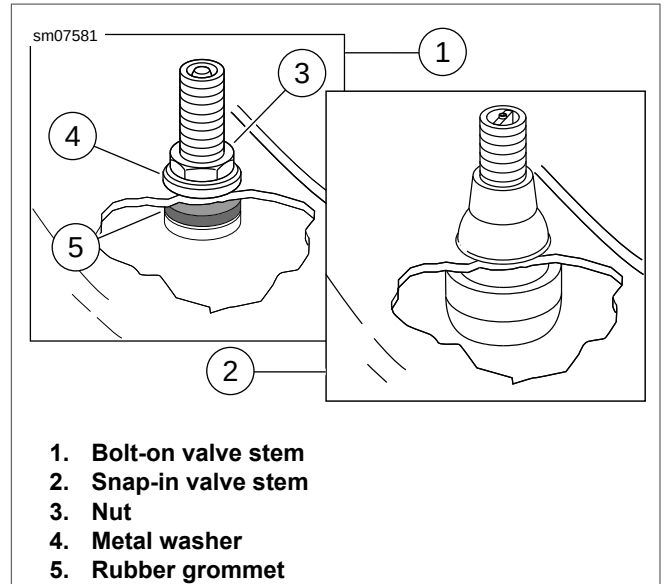

Figure 2-4. Tubeless Tire Valve Stems
1. See Figure 2-4. Replace damaged or leaking valve stems.
- a. Install rubber grommet (5) on valve stem (1).
- c. Install metal washer (4).
- d. Install nut (3). Tighten to 12-15 **in-lbs** (1.4-1.7 Nm).
3. **XL 1200C/C ANV/CP/CA Cast Wheels:** Press the snap-in valve stem (2) into the rim hole.